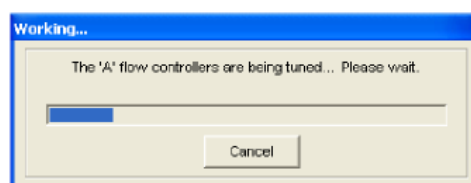

Figure 4-7. Autotune Status Bars – Channel A
- step 3 This is followed by status windows (Figure 4-7) which alert you that the system is preparing to Auto-tune and then performing the autotune.